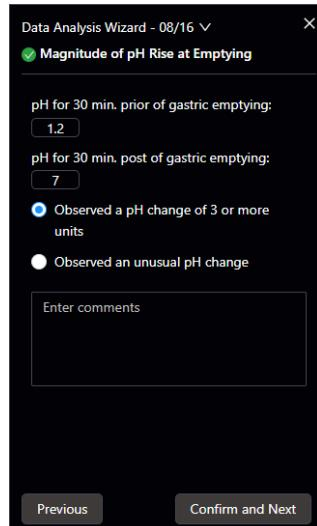

Figure 4-32 Data Analysis – Magnitude of pH Rise at Emptying
9) Magnitude of pH Rise at Emptying (Figure 4-32). Please confirm the magnitude of pH change from 30 minutes before gastric emptying to 30 minutes after gastric emptying, and select based on actual conditions. After selection, click [Confirm and Next] to proceed.